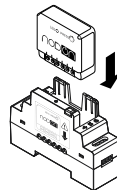

figure 1
- 3 Insert the relay switch on the DIN Rail Box while respecting the direction of insertion of the relay switch, the terminal block must be located on the left (see figure 1).